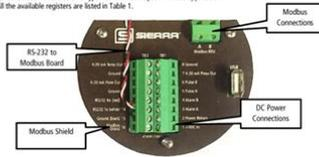

Figure 1: 640i/780i Terminal Board for Modbus Connection
1. Connect the flow meter to the A and B RS-485 network connections (see Figure 1).
3. Power up the meter. Pin 1 = 24 VDC and Pin 2 = Power Rtn (see Figure 1).
5. Setup meter ID (1) to 247 and the other COM settings. See Set Up instructions in the QuadraTherm 640i & 780i Modbus Manual, Chapter 4 Bootloader for more info.
You need to purchase these to complete this installation. Installing the CPU. Be very careful when handling the CPU. Make sure not to bend or break any pins on the back. Installing the CPU Fan. There are many different fan types that can be used with this motherboard. Follow the instruction that came with you fan assembly. Be sure that the fan orientation is correct for your chassis type and your fan assembly. Installing Memory DIMMs. Use the following procedure to install memory DIMMs. Note that there is only one gap near the center of the DIMM slot. This slot matches the slot on the memory CPU Fan assembly is aligned with the vents on the covers. Secure the motherboard with a motherboard. IDE Serial ATA II Chassis Fans Rear panel USB 2.0 Adapter Expansion slots CMOS jumper settings. See Figure 1 on page 7 to locate the connectors and jumpers referenced in the following procedure. Power Connections. To support 3way SLI, this motherboard. Firmly plug the power supply cable into the connector and cable from system power supply to PWR1 Board edge. Figure 4. Table 1. Connector 24. PWR1 Motherboard Connector PWR1 Pin AssignmentsAlign the pins to the connector and press firmly until seated. Backpanel connectorConnecting Serial ATA Cables. The Serial ATA II connector is used to connect the Serial ATA II device to the motherboard. These connectors support the thin Serial ATA II cables for primary storage devices. Connecting Internal Headers. Front Panel Header. The front panel header on this motherboard is one connector used to connect the following four cables 10 9 see Table 2 for pin definitions Blank No Connect. Table 2. IEEE ends of the cables to the IEEE 1394 connectors on the motherboard. Table 3. Connector. IEEE 1394a Connector Pins. Connect the two ends of the cables to the USB 2.0 headers on the motherboard.Audio. The audio connector supports HD audio standard and provides two kinds of audio output choices the Front Audio, the Rear Audio.
Note that there is only one gap near the center of the DIMM slot. This slot matches the slot on the memory DIMM to ensure the component is installed properly. 1. Unlock a DIMM slot by pressing the module clips outward. 2. Align the memory module to the DIMM slot, and insert the module vertically into the DIMM slot. The plastic clips at both sides of the DIMM slot automatically lock the DIMM into the connector. Page 23 Hardware Installation Securing the Motherboard into the Chassis Most computer chassis have a base with mounting studs or spacers to allow the mother board to be secured to the chassis and help to prevent short circuits. If there are studs that do not align with a mounting hole on the motherboard, it is recommended that you remove that stud to prevent the possibility of a short circuit. In most cases, it is recommended to secure the motherboard using a minimum of nine 9 spacers. 1. Page 24 XFX nForce 780i 3Way SLI Motherboard IDE Serial ATA II Chassis Fans Rear panel USB 2.0 Adapter Expansion slots CMOS jumper settings See Figure 1 on page 5 to locate the connectors and jumpers referenced in the following procedure. Power Connections To support 3way SLI, this motherboard has the following specific power supply requirements Minimum 1000 W peak power Six 6pin 3x2 PCIE power connectors see Figure 3 6pin 3x2 PCIE connector Figure 3. Page 25 Hardware Installation 24pin ATX Power PWR1 PWR1 is the main power supply connector located along the edge of the board next to the DIMM slots. Make sure that the power supply cable and pins are properly aligned with the connector on the motherboard. Firmly plug the power supply cable into the connector and make sure it is secure. PWR1 connector Plug power cable from system power supply to PWR1 Card edge Figure 4. PWR1 Motherboard Connector Table 1. Page 26 XFX nForce 780i 3Way SLI Motherboard 8pin ATX 12V Power PWR2 PWR2, the 8pin ATX 12V power connection, is used to provide power to the CPU.